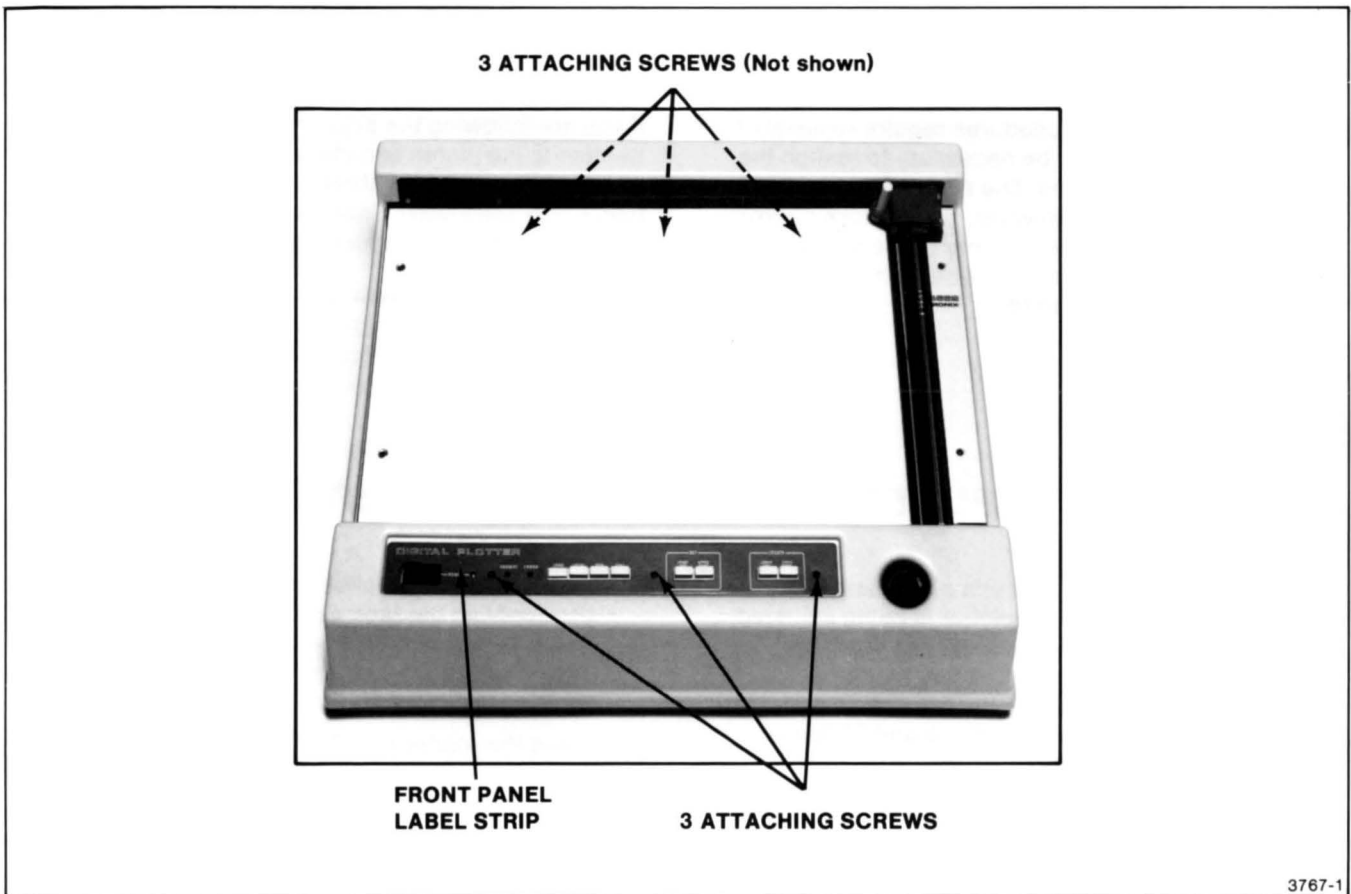

Figure G-1. Plotter Case Attaching Screws.
10. **Remove** the six hex-socket cap screws (5/64" socket) holding the plotter case to the frame. There are three screws on the front panel and three screws on the rear panel (see Figure G-1).
3. **Install** the six hex-socket screws that hold the plotter case (see Figure G-1).